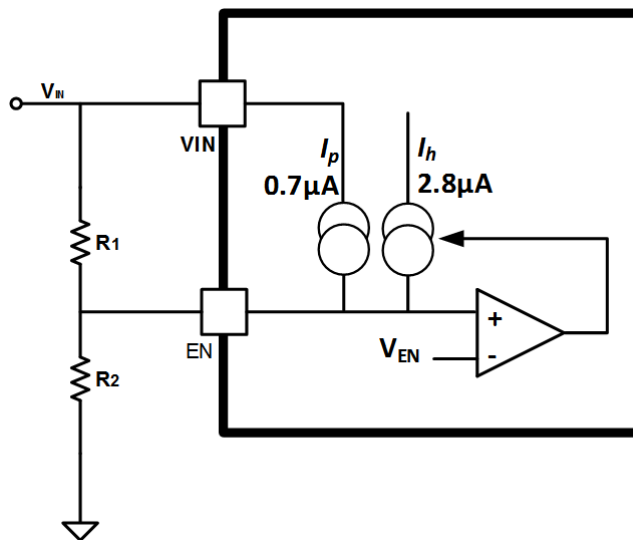

Fig. 28 Input Under-Voltage Lockout Setup
Under-voltage lockout can be used to prevent the output from starting until the input voltage is within its normal range. For input under voltage lockout (UVLO) adjustment, use the EN pin as shown in Fig. 28 to set the UVLO level by using two external resistors. Once the EN pin voltage exceeds 1.3V, an additional 2.8 μ A of current is added to provide input voltage hysteresis. Resistor R_{EN1} and R_{EN2} can be calculated using Equations (4) and (5) based on the required startup voltage and shutdown voltage.